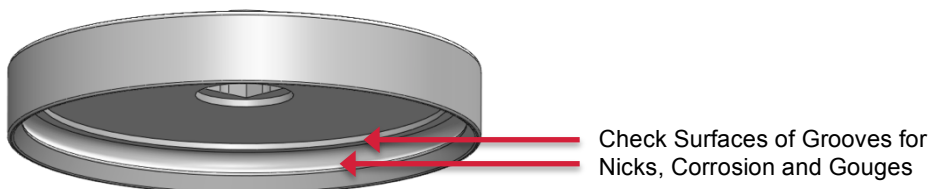

Figure 4-6 Retainer
- 4.1.4.1 The grooves (Figure 4-6) must be free of gouge marks, corrosion, pits and rust. Since the O-rings must seal against these surfaces, any irregularities can cause the valve to leak. Clean the groove by sanding it lightly with emery paper (400 grit). If this does not effectively clean the groove, replace this part.